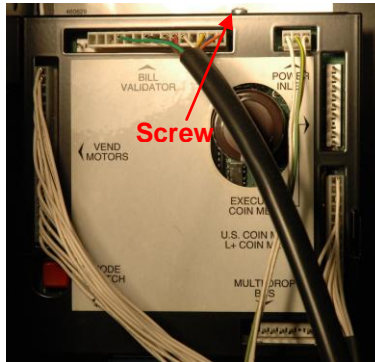

Figure 1
3. Unplug all harnesses from the existing controller PCB. See Figure 1. Also remove the coin mech and validator if present.
4. Remove the control board cover by removing the phillips screw at the top edge of the cover as shown. Discard cover and screw. See Figure 1.